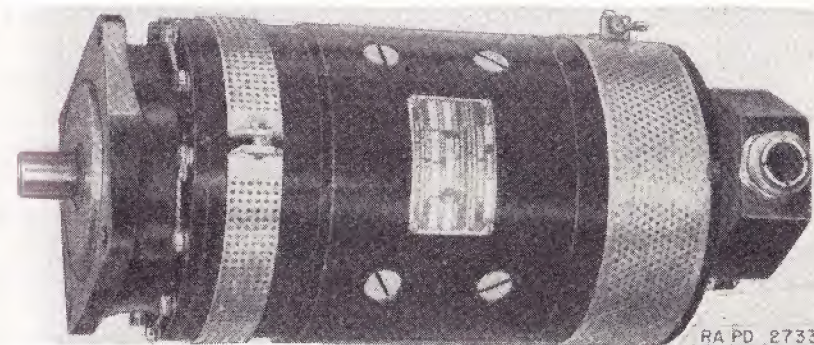

FIGURE 27.—Generator.
(3) Remove the locking wire or cotter keys and the nuts holding the starter to the accessory case.
(4) Remove the starter.
(5) To replace the starter reverse the above procedure.
53. Generator (fig. 27).—*a. Description.*—The generator is flange-mounted on the accessory case below the starter and is held in place by four bolts. The voltage control box described in paragraph 103 controls the current output of the generator.